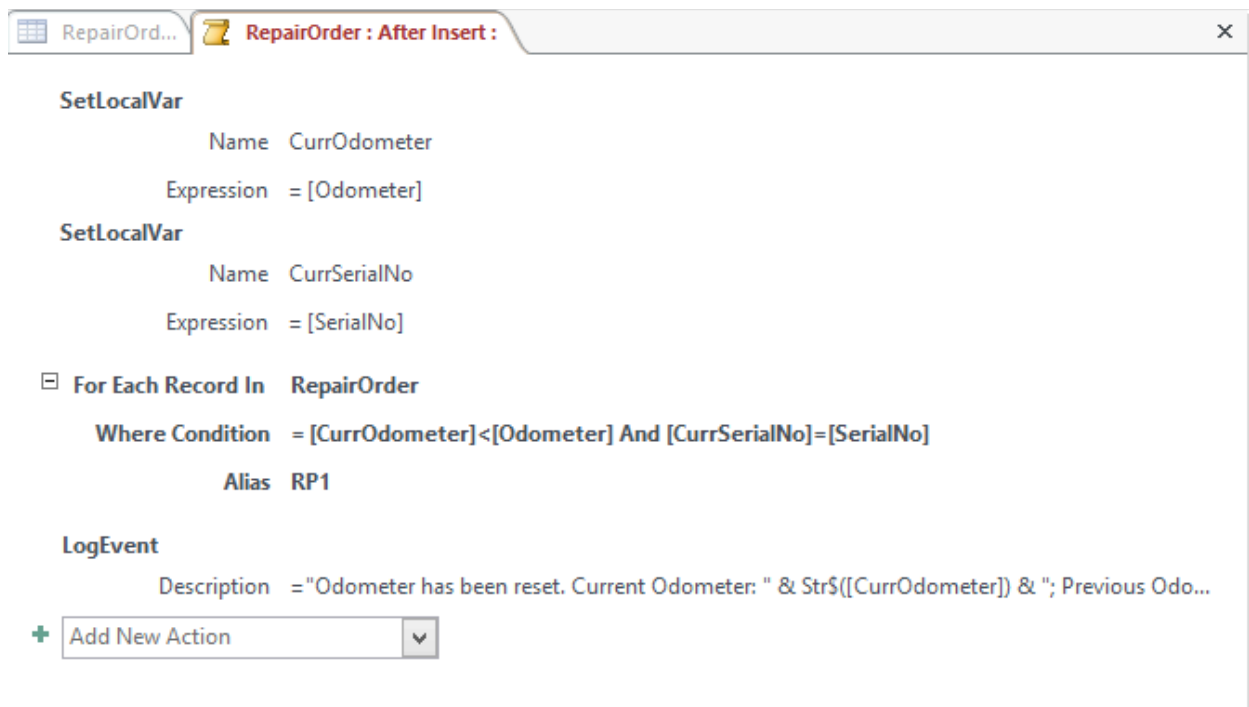
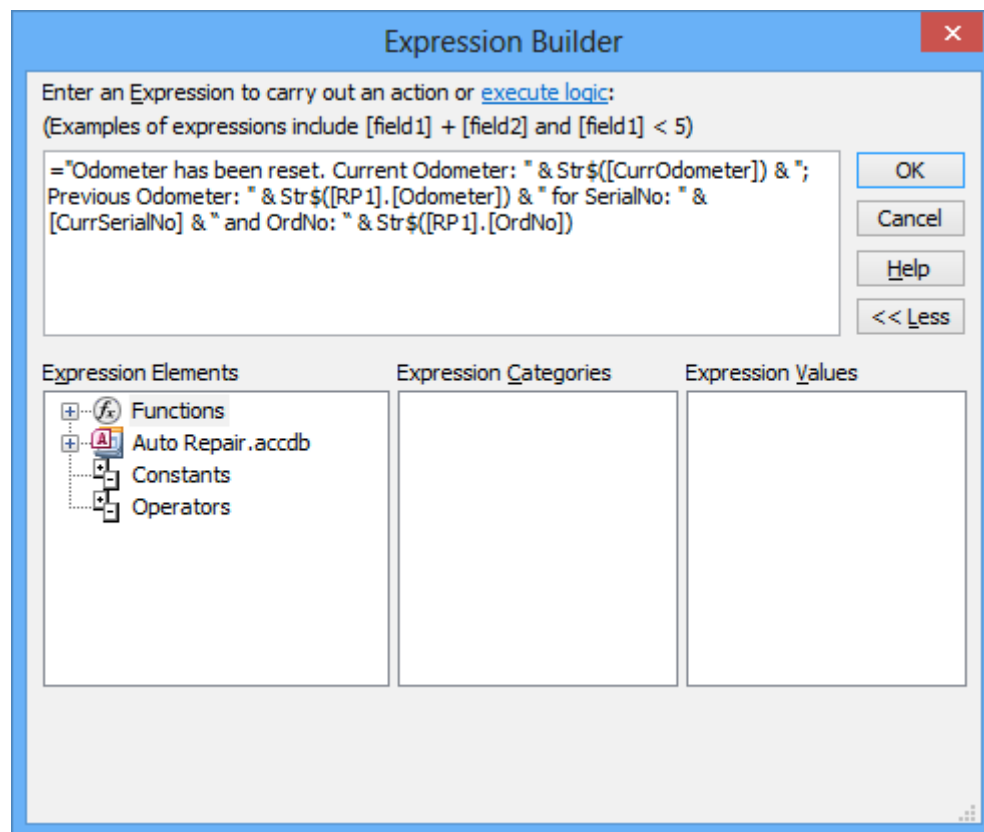

Figure 57: Final *After Insert* Data Macro
Figure 58: Expression Builder Window with the *Description* Parameter Value
4. Review your Macro: Compare your macro to the completed macro in Figure 57. Since the full value of the *Description* parameter will not fit in the window, you should compare your *Description* parameter value to the Expression Builder window (Figure 58).